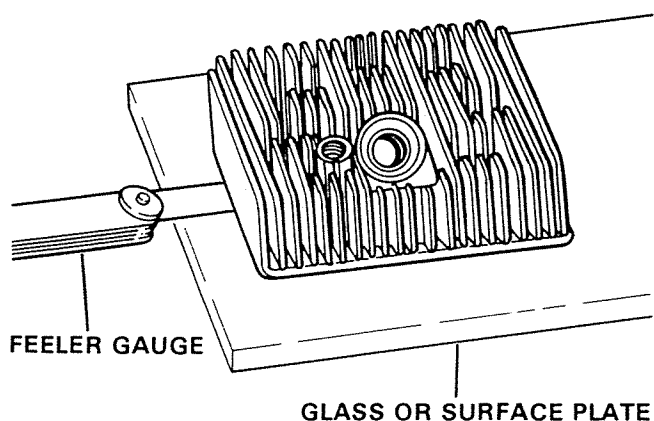

Figure 17. Checking Flatness of Cylinder Head.
- B. Check flatness of cylinder head by laying gasket surface on a piece of plate glass or surface plate. Measure at different points between head and glass with feeler gauge. Figure 17.